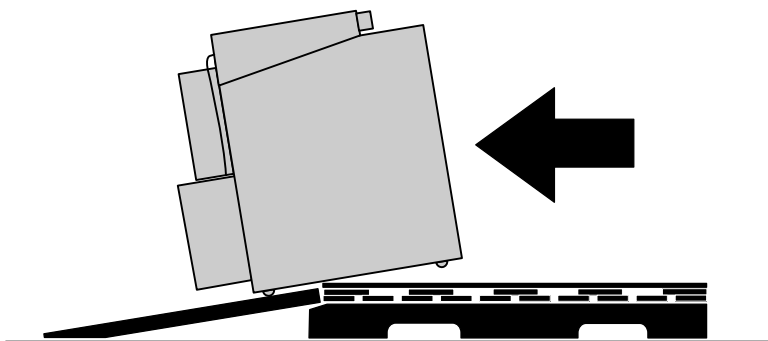

Figure 8. Clearing the Pallet and Ramp
11. With the UPS supported, slowly roll the UPS down the ramp until the UPS is clear of the pallet and ramp (see Figure 8).